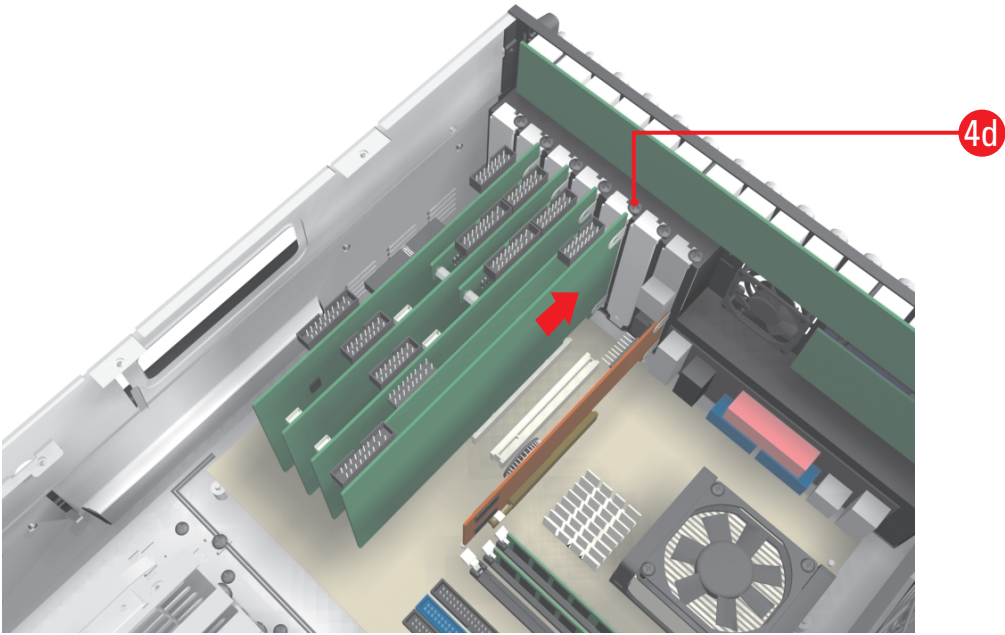

Figure 12. Securing the DX8000-MUX16 Card
- d. Using the screw you removed in step 2a, secure the DX8000-MUX16 card to the chassis. Refer to Figure 12.